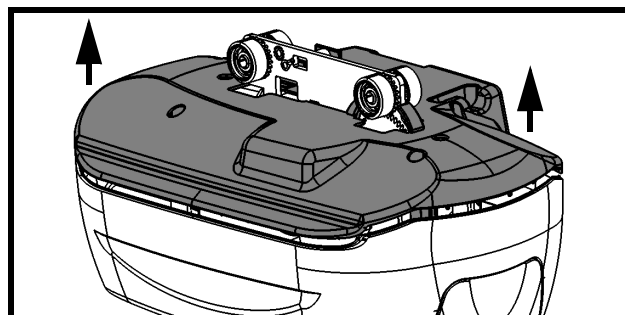

Fig. 8
- 10) Remove the top shell by passing the wheels of the trolley through the slot (see Fig. 8).